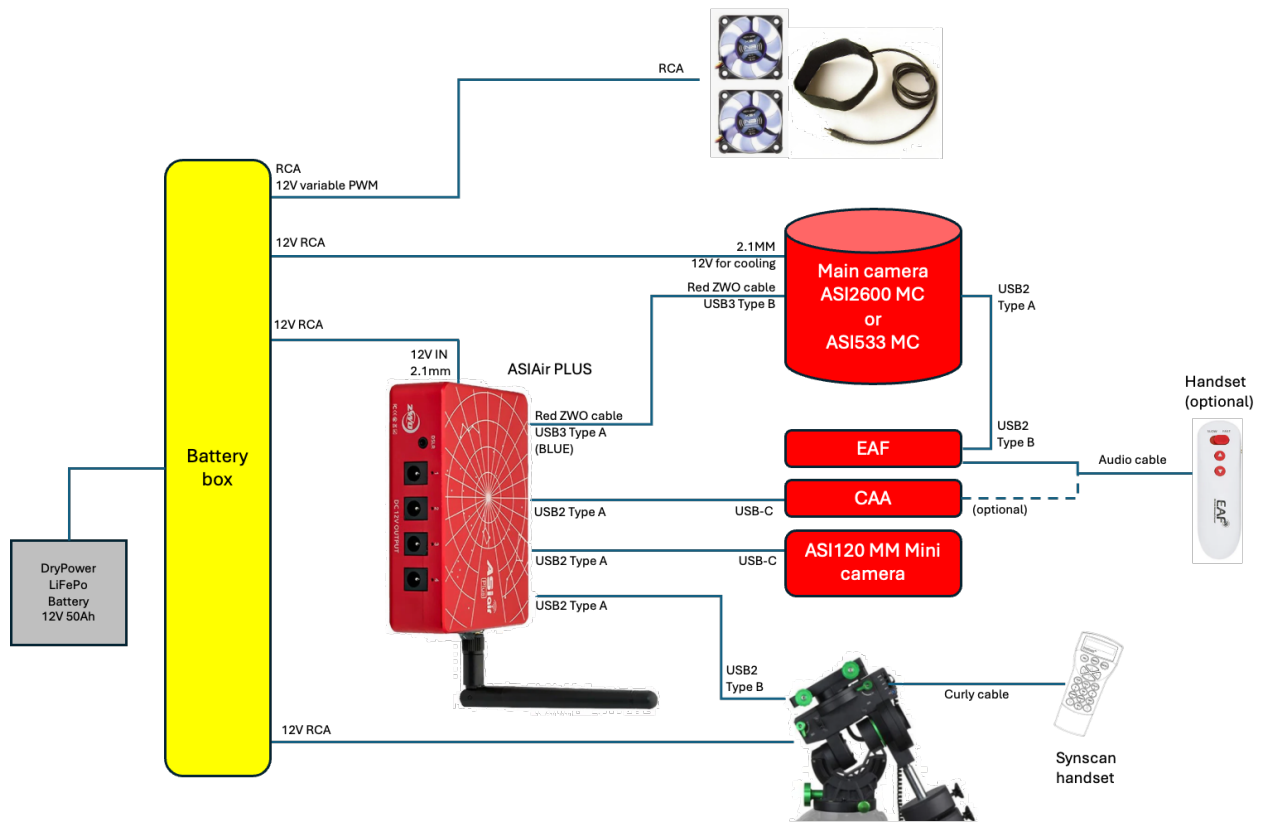
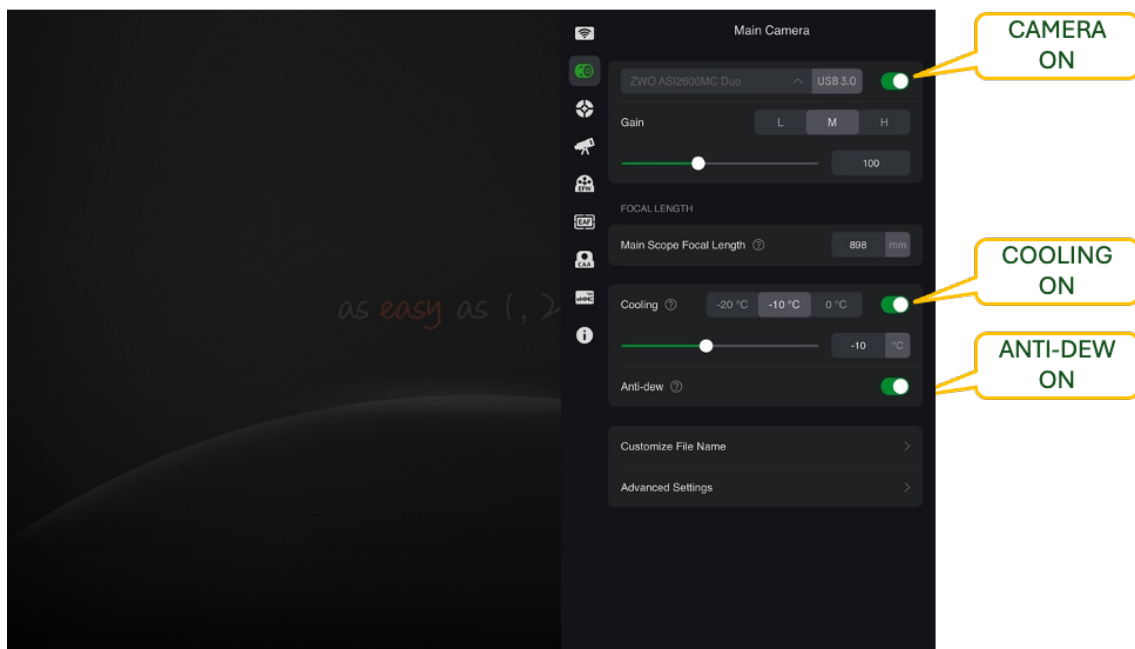
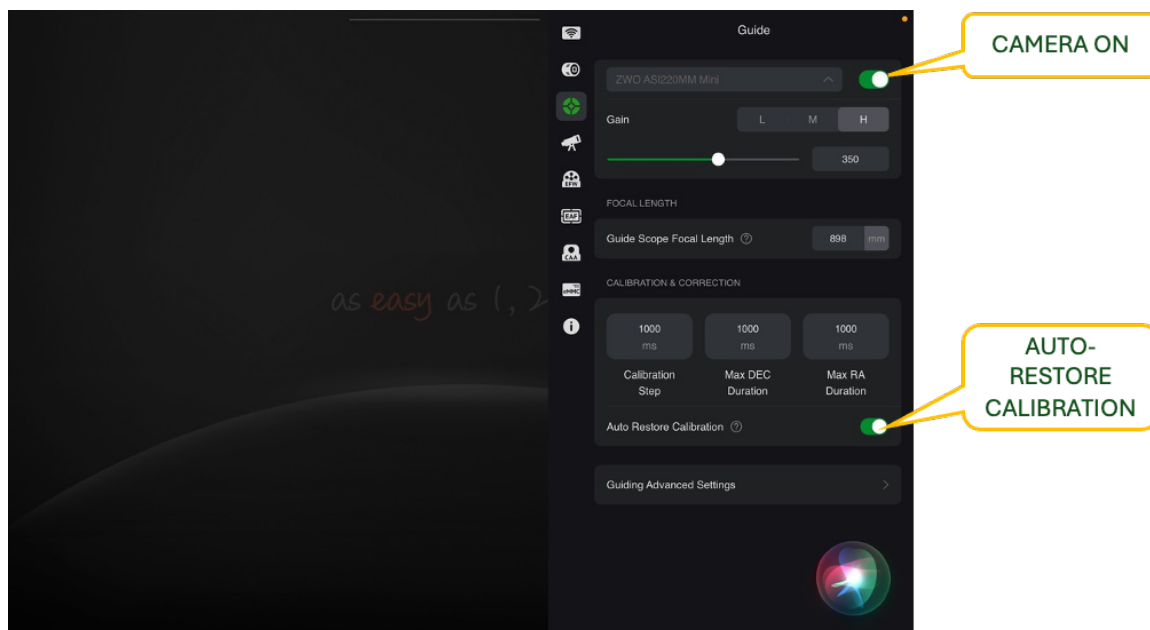

Figure 1. Typical cable diagram for ASIAir
Figure 8. Main camera parameters
Figure 9. Guide camera parameters
Connect ASIAir to the mount via the USB2 port, cameras and accessories as suggested in the cable diagram, Figure 1. Depending on your choice of accessories, some can be powered from the ASIAir or your battery box. EAF should be connected to ASIAir USB port directly, while CAA or a filter wheel can be daisy-chained via a camera.
Referring to figure 1, select the Main camera and configure settings (Figure 8), and repeat for the guide camera (Figure 9). Check each has the desired camera selected (ON), and a focal length has been set – an approximate value is fine as it will determine this later from platesolving. For the main camera: